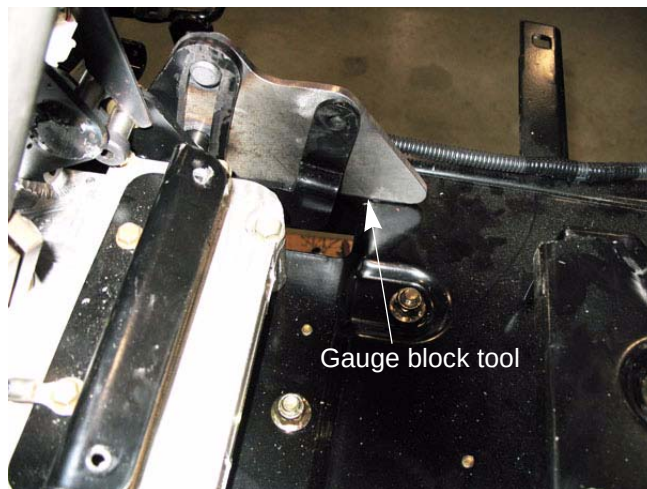

Figure 6.15
7. Insert the pins of the gauge block tool P/N 753-05437 into the cam slot. See Figure 6.15.